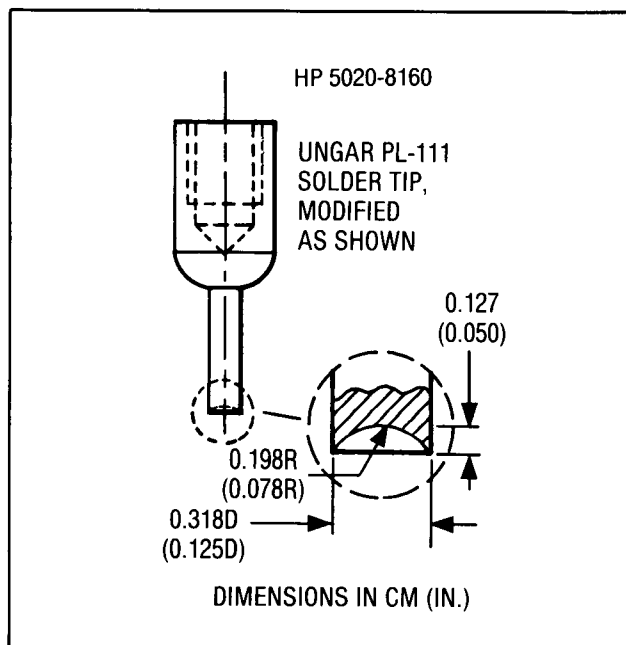
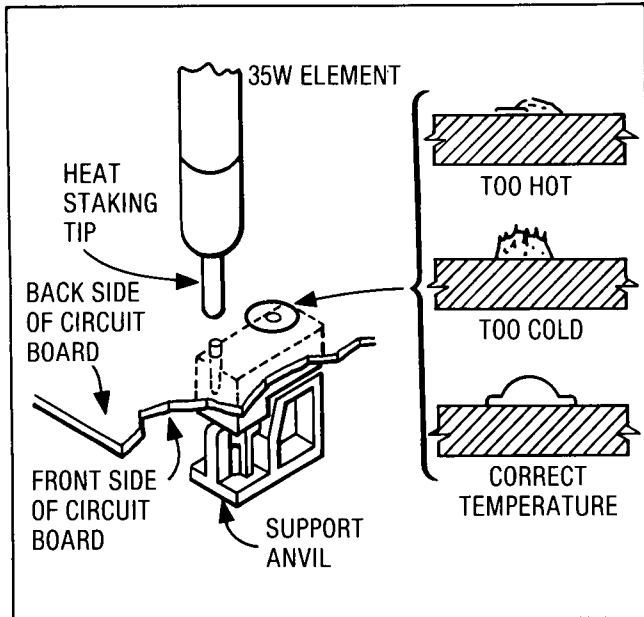

Figure 8-3. Heat Staking Tip
Figure 8-4. Typical Assembly for Heat Staking Operation
5. To ensure proper switch assembly, verify that the switch is pushed firmly against the circuit board and, with the hot (440°C or 825°F) staking tip (see Figure 8-3) push down on each of the two posts on the switch. Each post should take about one second to stake. With the proper cycle, the post should turn a darker color and, in about ten seconds, return to its original bright red color. The correctly staked post should have a smooth round rivet-like top. See Figure 8-4.